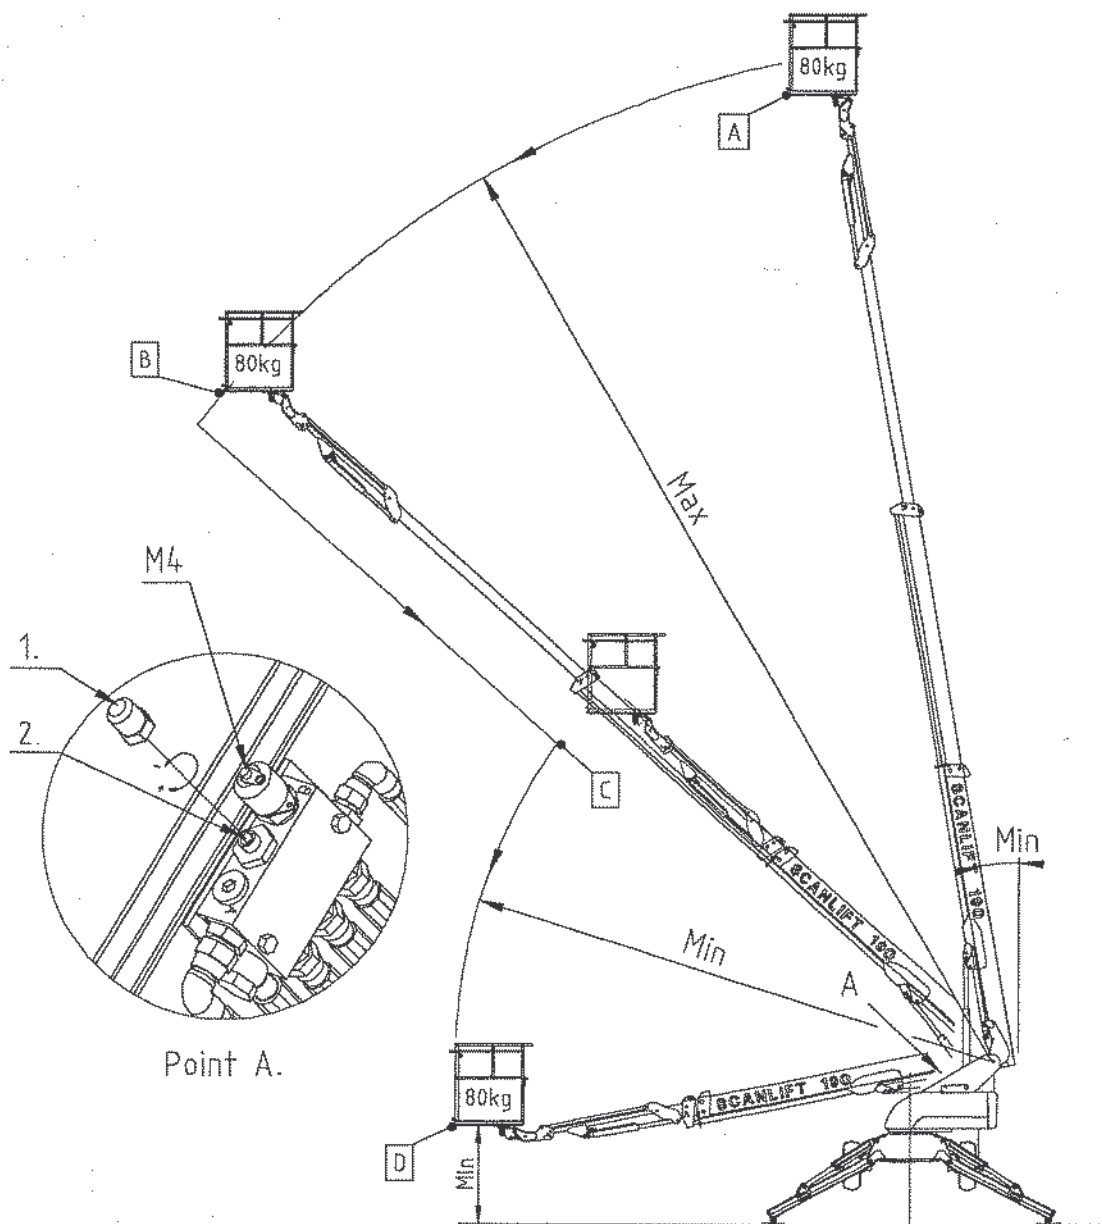

Figure 22.-1
3. Raise the booms to position A, all the way up. Jib fully out (figure 22.-1.).
Adjustment is required, if starting from position A is too rapid or if the booms do not lower from position C – D with cold oil (figure 22.-1.).